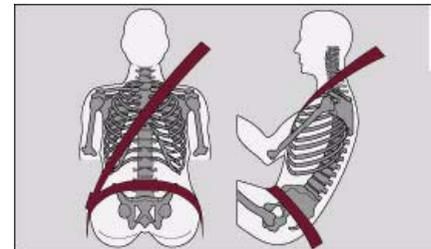

Fig. 92 Adjusting shoulder and lap belt
- The diagonal part of the belt should never be positioned across the neck, but roughly over the centre of the shoulder; it should fit closely against the upper part of the body. The lap part of the belt must be worn tightly across the hips, and not over the abdomen ⇒ page 112, fig. 92. Pull the belt tight if necessary to take up any slack.